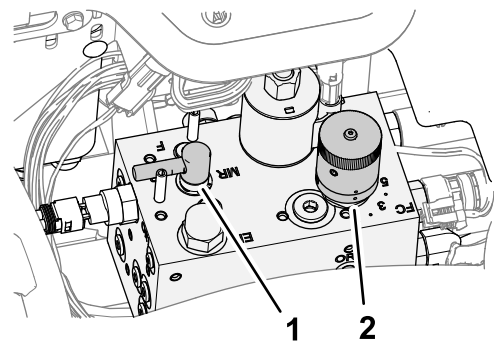

Figure 95
- Move the backlap lever to the F (mow) position (Figure 95).